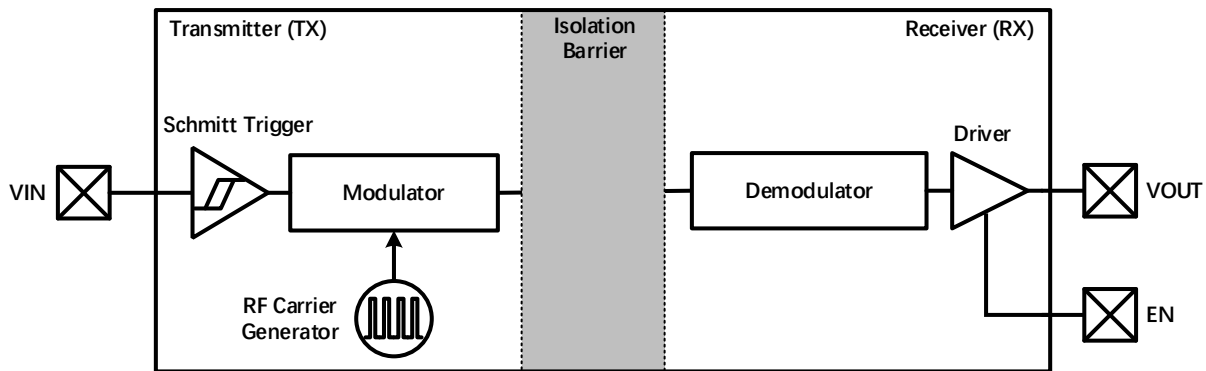
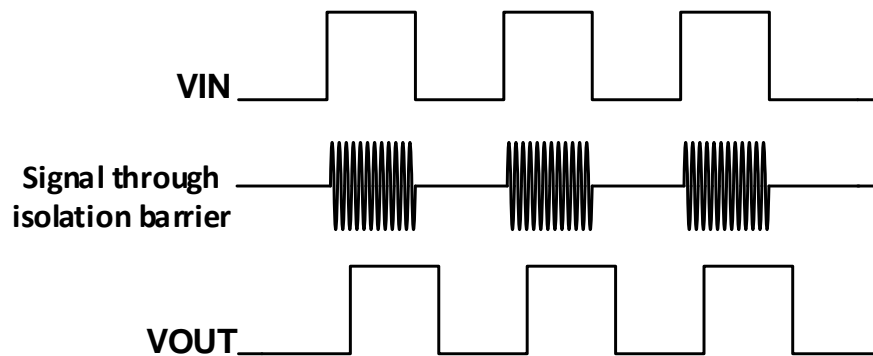

Figure 9-1 Functional Block Diagram of a Single Channel
Figure 9-2 Conceptual Operation Waveforms of a Single Channel
The CA-IS373x family of devices use a simple ON-OFF keying (OOK) modulation scheme to transmit signal across the SiO2 isolation capacitors that provide a robust insulation between two different voltage domain and act as a high frequency signal path between the input and the output. The transmitter (TX) modulates the input signal onto the carrier frequency, that is, TX delivers high frequency signal across the isolation barrier in one input state and delivers no signal across the barrier in the other input state. Then the receiver rebuilds the input signal according to the detected in-band energy. If the ENx pin is low then the output goes to high impedance state and will be pulled up to VDDO (CA-IS373xH) or pull down to the corresponding GND (CA-IS373xL). This simple architecture offers a robust isolated data path and requires no special considerations or initialization at start-up. The capacitor-based signal path is fully differential to maximize noise immunity, which is also known as common-mode transient immunity. Advanced circuitry techniques are applied for better EMI introduced by the carrier signal and IO switching. The capacitively-coupled architecture provides much higher electromagnetic immunity compared to the inductively-coupled one. And OOK modulation scheme eliminates the missing-pulse error that occurs in the pulse modulation method. A simplified functional block diagram and conceptual operation waveforms of a single channel is shown in Figure 9-1 and Figure 9-2.